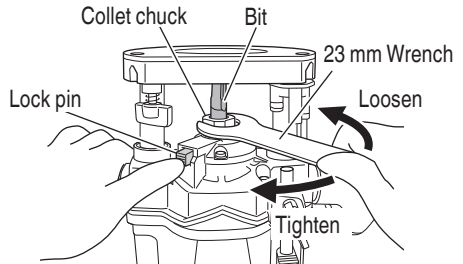

Fig. 11
- (2) Clean and insert shank of bit into the collet chuck until shank bottoms, then back it out approximately 1/16" (approx. 2 mm).
- (3) With the bit inserted and pressing the lock pin holding the shaft, use the 23 mm wrench to firmly tighten the collet chuck in a clockwise direction (viewed from under the router). (Fig. 11)